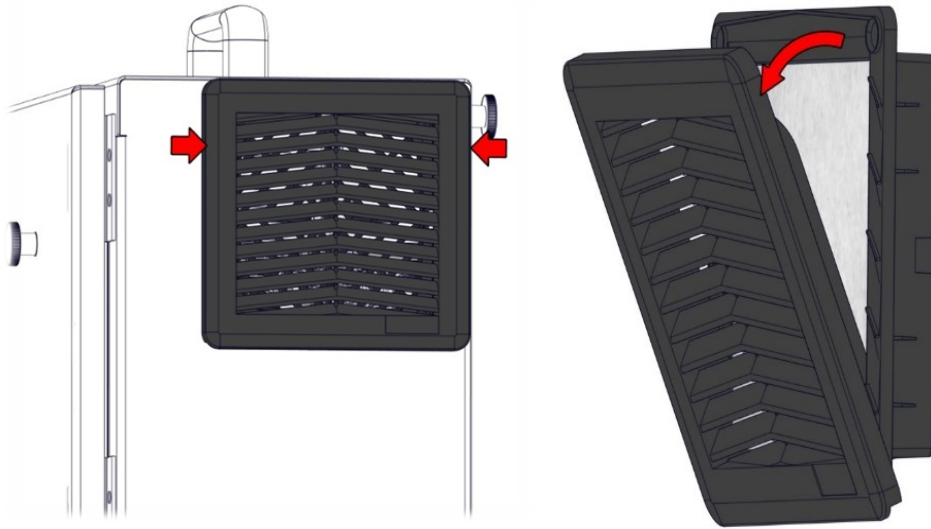

Figure 3.7. 更换控制箱过滤器。
1. Gently remove the outer plastic frame by pulling where the red arrows are, as shown in the images below in figure 3.7. 框架向外倾斜。